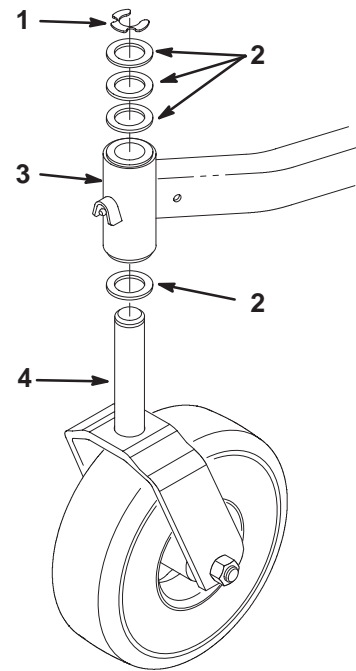

Figure 39
4. To change the front-to-rear pitch, remove the retaining ring and move an equal number of thrust washers on both castor wheel forks. Move the thrust washers from the top of the carrier frame mounting tube to the bottom to raise the front of the mower. Move the thrust washers from the bottom of the mounting tube to the top to lower the front of the mower (Fig. 39).
4. To change the side-to-side leveling, remove the retaining ring and move the thrust washers on one castor wheel fork only. Move the thrust washers from the top of the carrier frame mounting tube to the bottom to raise the corresponding side of the mower. Move the thrust washers from the bottom of the mounting tube to the top to lower the corresponding side of the mower. (Fig. 39).
2. Remove the retaining ring and thrust washer(s) from the top of the castor wheel fork (Fig. 39).
6. Inspect the castor wheel fork for wear and replace if necessary (Fig. 39).
7. Slide the castor wheel fork through the bushings in the mounting tube. Replace the thrust washer(s) onto the fork and secure with the lynch pin (Fig 39).